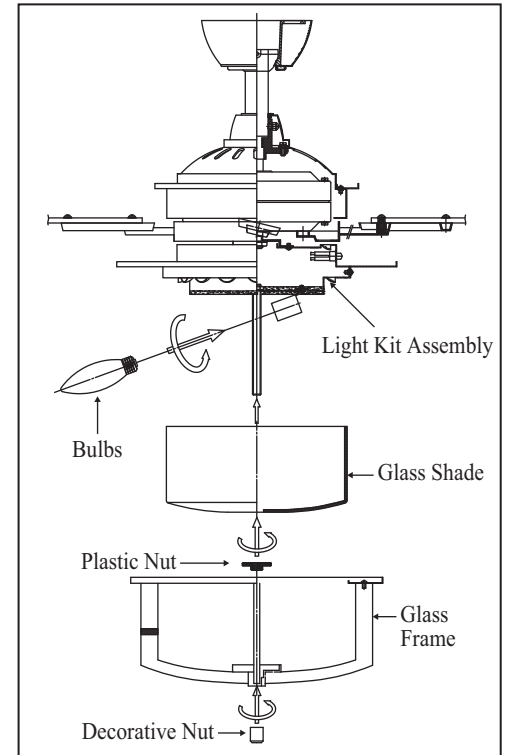

Figure 18
2. While holding the light kit under your fan, Make the polarized plug connections: (Figure 18)
6. Raise the glass frame up to the glass shade and secure it to the light kit stem with the decorative nut. (Fig. 18)